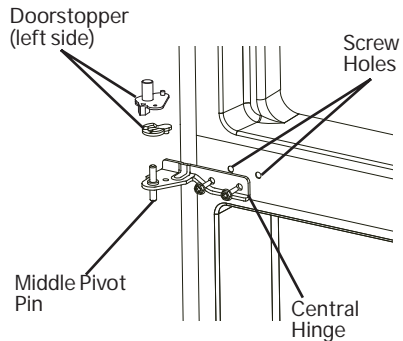

Fig. 5
6. To install refrigerator door: Line up the left bottom hole of the refrigerator compartment door over the bottom hinge pin. Move door forward to make it straight and align with central hinge. Install the central hinge again, and turn the hinge axle until it completely enters the door body. Secure it with the screws provided. (see Fig. 5)